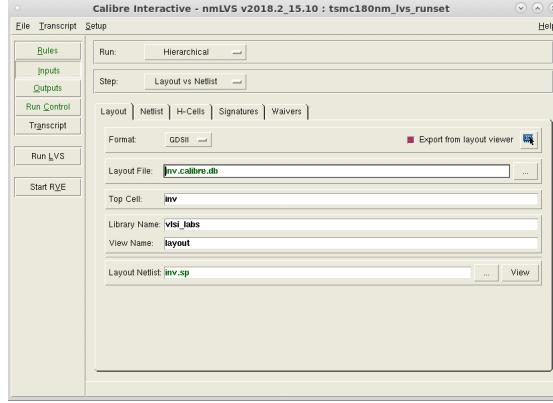

Figure 16: Calibre nmLVS main window.
3. The Calibre nmLVS window now appears (Fig. 16). As for the DRC, you should not have to modify anything on the nmLVS window except setting the LVS runset file to: